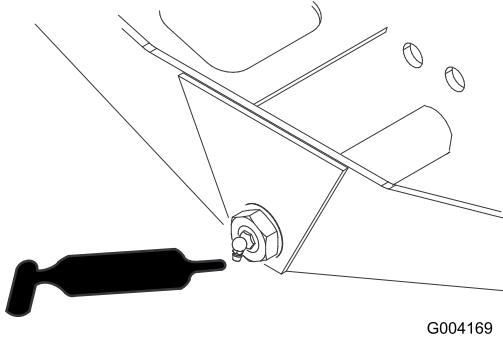

Figure 111
- Axle-steering pivot (1) (Figure 111)